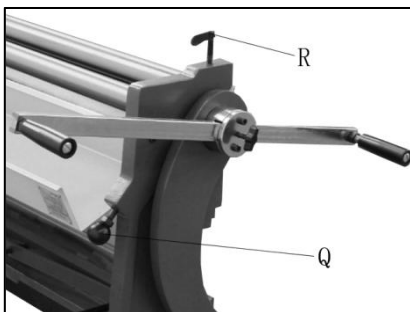

Figure 11
2. Back off idle roll completely by rotating idle roll screws (Q, Figure 11) counter-clockwise.
3. Loosen bolt (R, Figure 11) to increase space between upper and lower press rolls.
4. Insert material between upper and lower rolls, and tighten bolt (R, Figure 11) to lower the upper roll, until material fits snugly. The upper roll must have
5. Rotate both idle roll screws (Q, Figure 11) to adjust idle roll's proximity to the two main rollers. Raise both ends an equal amount.